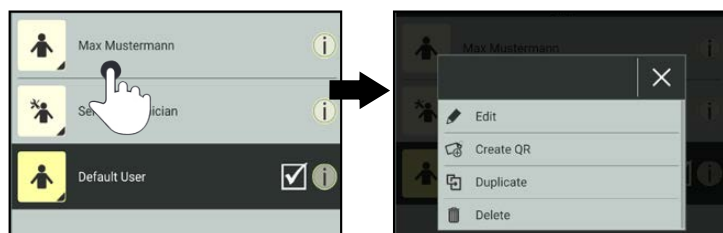

Fig. 59: Opening a user context menu by pressing and holding
- be pressed and held (to edit users; see Fig. 59) or